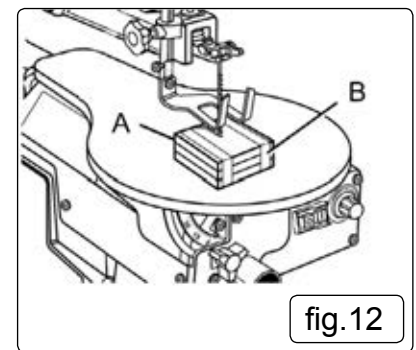

fig.12
6.8. **Stack Cutting. fig.12**